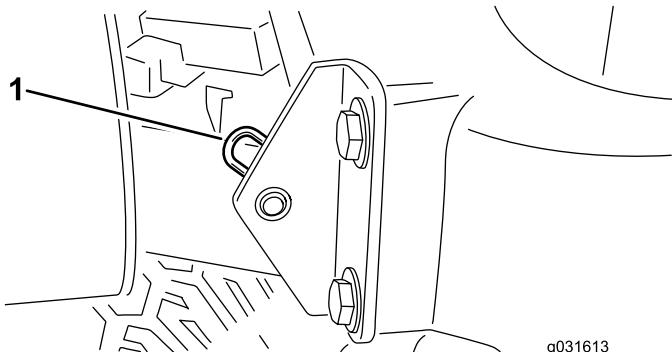

Figure 35
2. Remove the hairpin cotter securing the hood pivot to the mounting brackets (Figure 35).